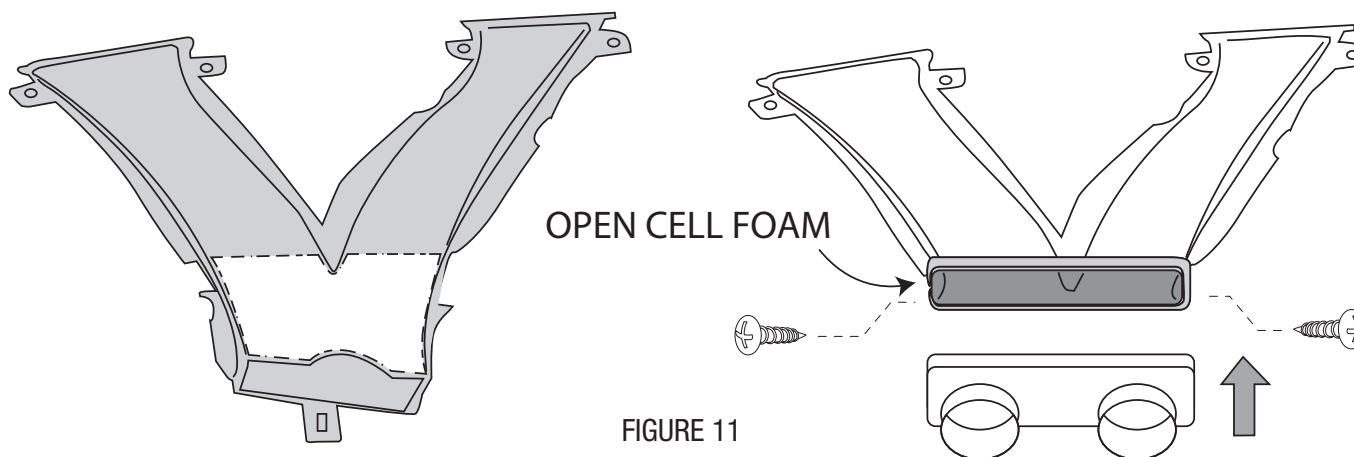

FIGURE 11
**Bag Kit E.** Remove the OEM defrost assembly. We've included a template for modifying the main defrost assembly. Cut out the template and tape to the assembly, then carefully cut the assembly as shown in figure 11. Locate in the hardware sack kit the  $\frac{1}{4}$ " x  $\frac{1}{2}$ " open cell foam. Wrap around the opening as shown. Locate in the hardware sack kit the Defrost duct adaptor. Attach over duct as shown using two #10 x  $\frac{5}{8}$ " PHP screws. Reinstall defrost duct using original hardware.